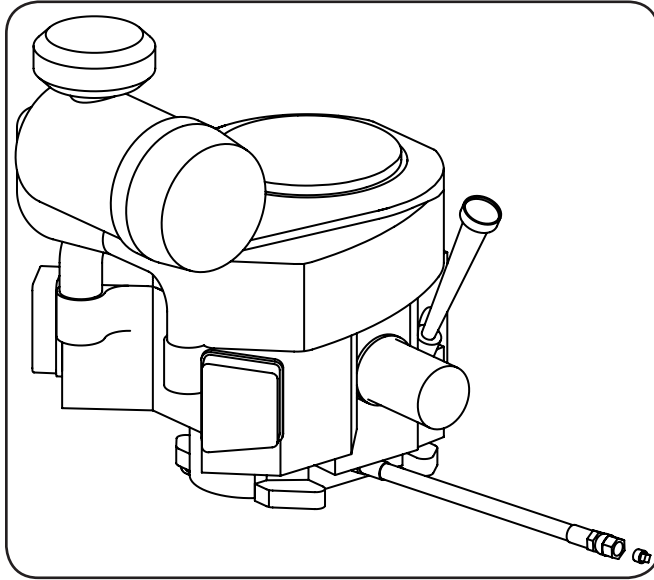

Figure 6-4
2. Locate the oil drain hose on the engine. See Figure 6-4.
5. While holding the free end of the oil drain hose over the oil collection container, unscrew the square-head hose plug from the end of the hose. See Figure 6-4. Drain the engine oil into the collection container.